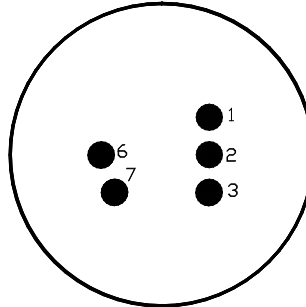

Figure 16 Sensor PCB
- Remove plug-in H₂S sensor and verify resistance between PIN 2 and PIN 3 (Shown in Figure 16) using an ohmmeter. At room temperature, the heater film's normal reading should range between 65 and 95 ohms.
- Remove plug-in H₂S sensor cell and verify resistance between PIN 6 and PIN 7 (Shown in Figure 16) using an ohmmeter. At room temperature, the sensor film's normal reading range should be 10-100 k-ohms. For sensors with an "X" in the serial number, the normal reading range should be 75 k-ohms to 2 meg-ohms. Failure would be open circuit.